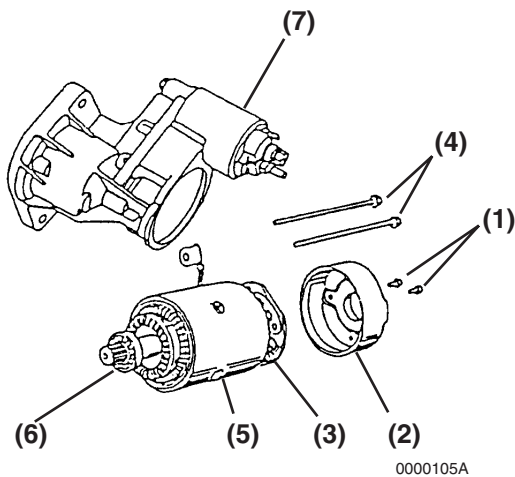

Figure 11-4
2. Remove the two M4 bolts (Figure 11-4, (1)) securing the rear cover (Figure 11-4, (2)) to the brush holder assembly (Figure 11-4, (3)).
- Remove the two M5 through bolts (**Figure 11-4, (4)**). Separate the rear cover (**Figure 11-4, (2)**), field coil assembly (**Figure 11-4, (5)**) with the armature assembly (**Figure 11-4, (6)**) from the gear housing (**Figure 11-4, (7)**).